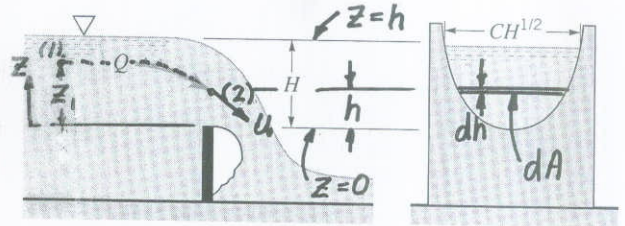

FIGURE P3.109
3.109 Water flows over a weir plate (see Video V10.13) which has a parabolic opening as shown in Fig. P3.109. That is, the opening in the weir plate has a width  $CH^{1/2}$ , where  $C$  is a constant. Determine the functional dependence of the flowrate on the head,  $Q = Q(H)$ .